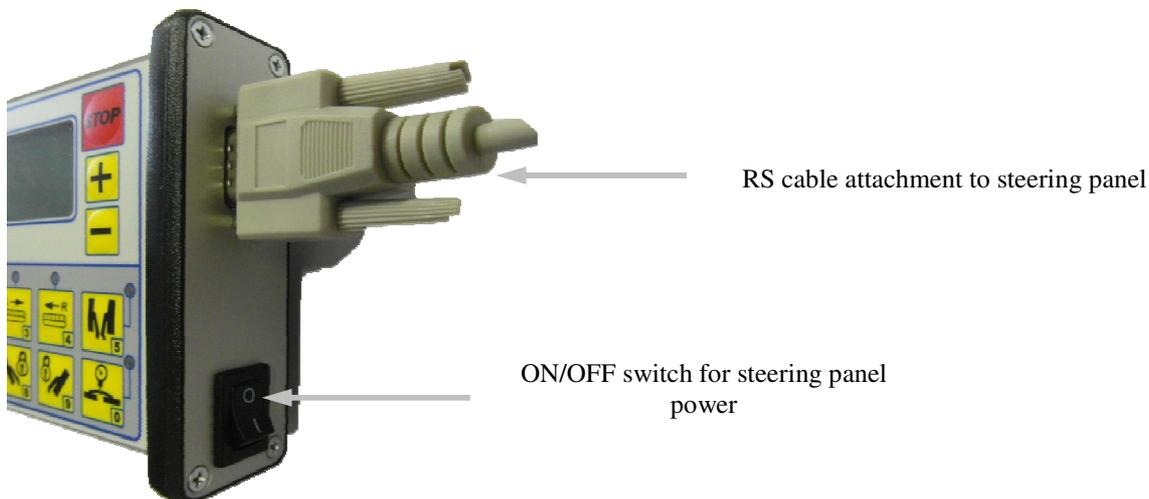

Fig. 17a. Steering box
When service mode is selected from the control panel, it is possible to check the mower's serial number and work time, i.e. machine's man-hour time. To run service mode, turn off the panel, and press buttons (1)  and (2)  at the same time until information is displayed on the information screen (4). To exit the service mode, turn off the panel and on again with power switch (**Fig. 17a**).